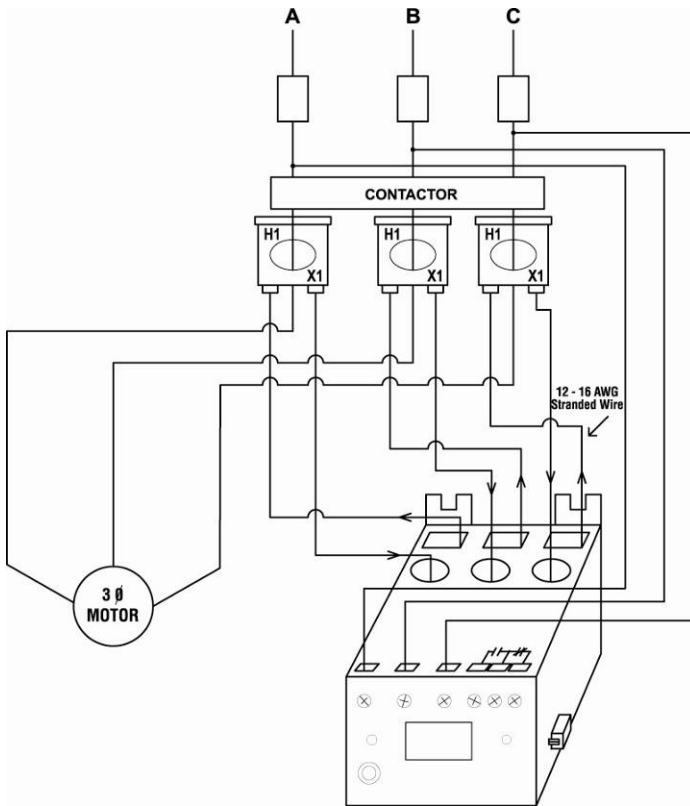

Figure 3: Typical Wiring Using External CTs²
- c) For amperages greater than 9.0 amps, external CTs (current transformers) are required. SymCom recommends using CTs with terminal connections for easier installation. All CT secondaries must make one or two passes through the round holes on the MotorSaver® Plus. See Figure 3 for a typical wiring diagram using external CTs.